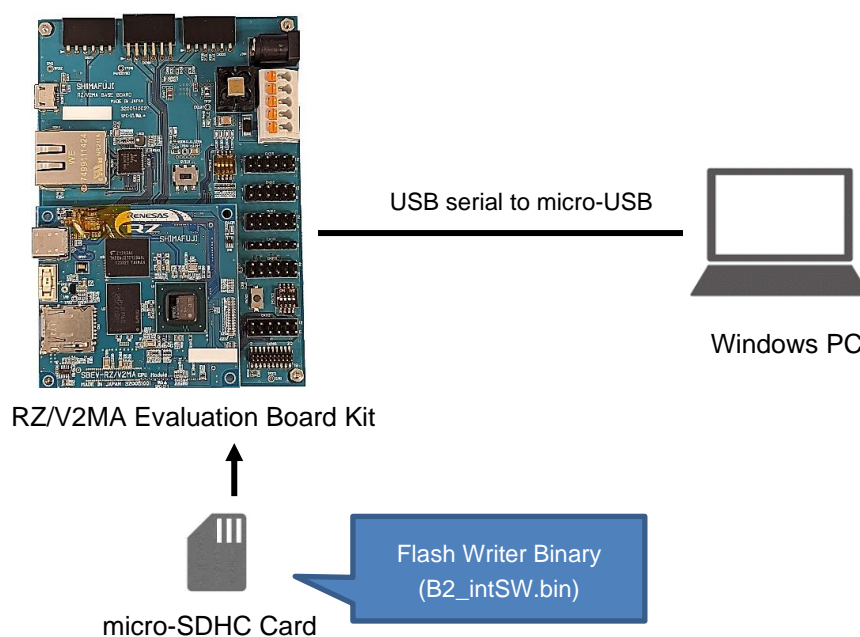

Figure 4-1. Equipment setting
- (1) Connect your Windows PC and RZ/V2MA Evaluation Board Kit with a USB serial to micro-USB cable as shown in Figure 4-1.